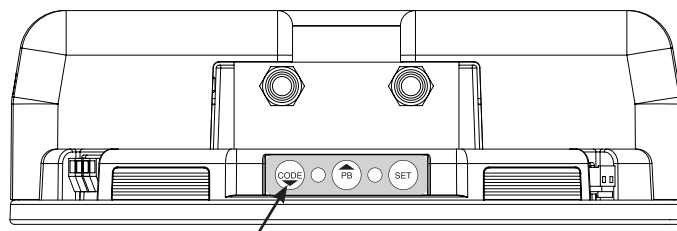

Fig. 4
- 1 Press the CODE button for 2 seconds the courtesy LEDs will flash to indicate Code Learn (Fig. 4).